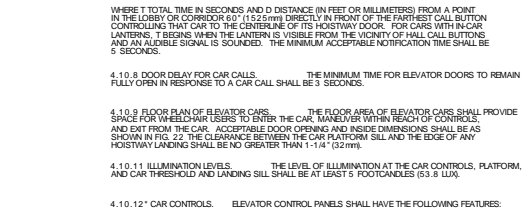

FIG. 22 MINIMUM DIMENSION OF ELEVATOR CARS. N.T.S.
- 4.10.9 FLOOR PLAN OF ELEVATOR CARS. THE FLOOR AREA OF ELEVATOR CARS SHALL PROVIDE SPACE FOR WHEELCHAIR USERS TO ENTER THE CAR, MANEUVER WITHIN REACH OF CONTROLS, AND EXIT FROM THE CAR. ACCEPTABLE DOOR OPENING AND INSIDE DIMENSIONS SHALL BE AS SHOWN IN FIG. 22. THE CLEARANCE BETWEEN THE CAR PLATFORM SILL AND THE EDGE OF ANY HOISTWAY LANDING SHALL BE NO GREATER THAN 1-1/4" (31.75mm).